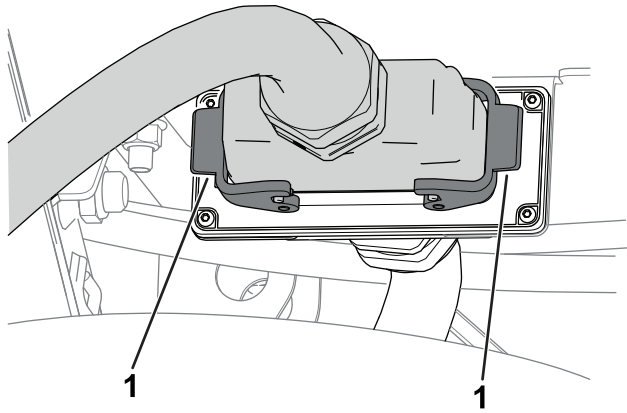

Figure 6
- Use the machine-connector latches to secure the connection (Figure 6).